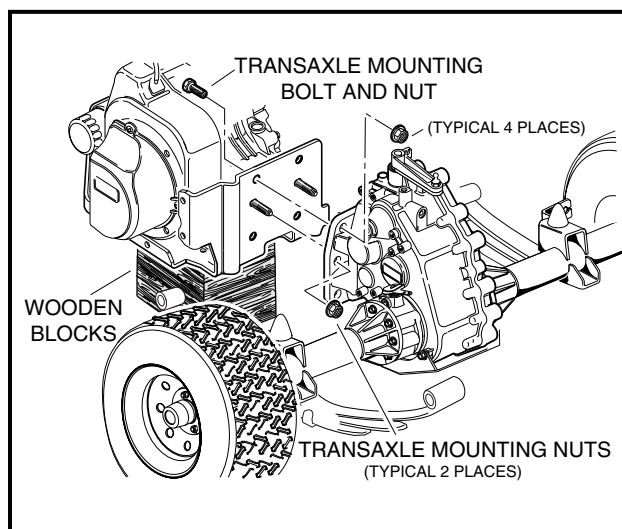

Figure 16-39 Transaxle Mounting
4. Position the transaxle mounting plate on the two mounting studs at the rear of the engine, and install the two mounting nuts (**Figure 16-39, Page 16-16**).